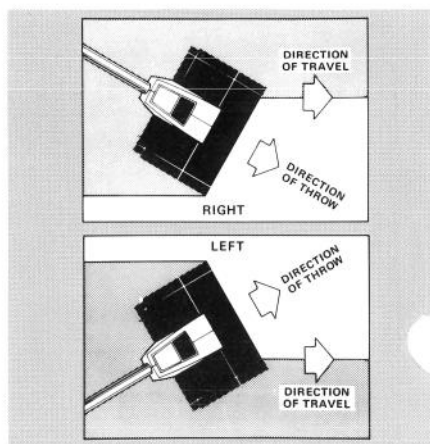

Figure 10
2. Direct the snow to the right or left by holding the Power Shovel at a slight angle (Fig. 10).